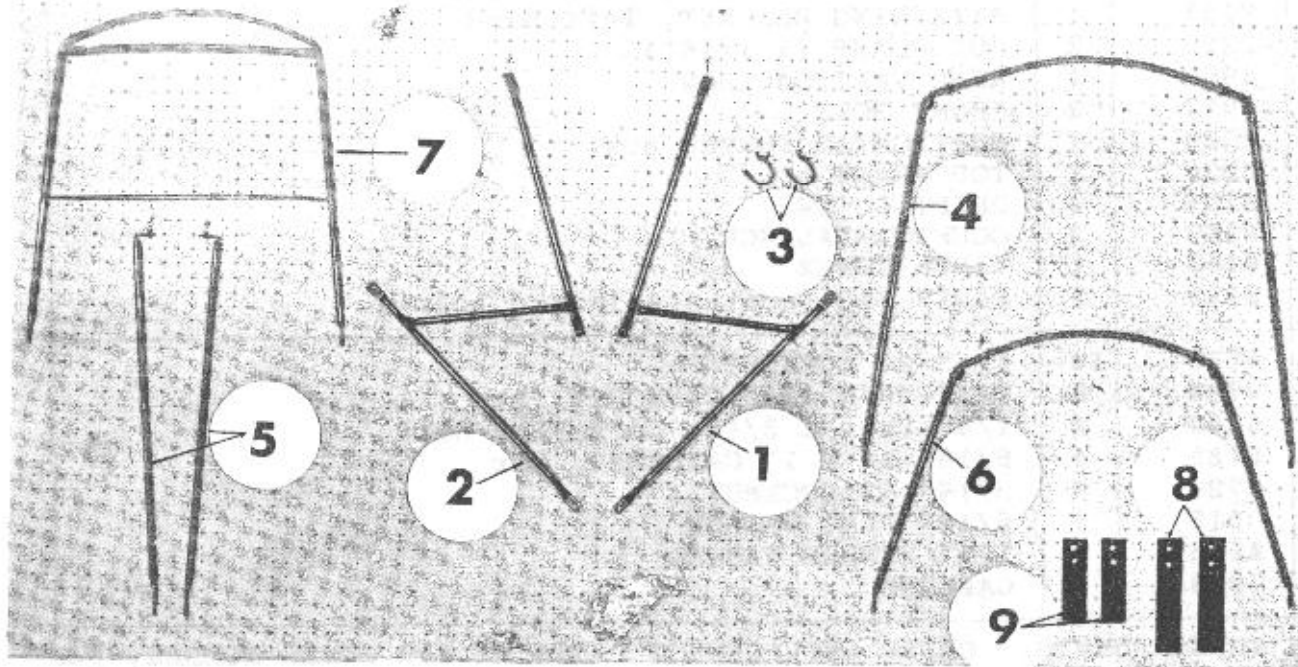

FIGURE 1
STEP 1; SEE FIGURE 1:
- A. Identify the steel parts using figure 1 as an example.